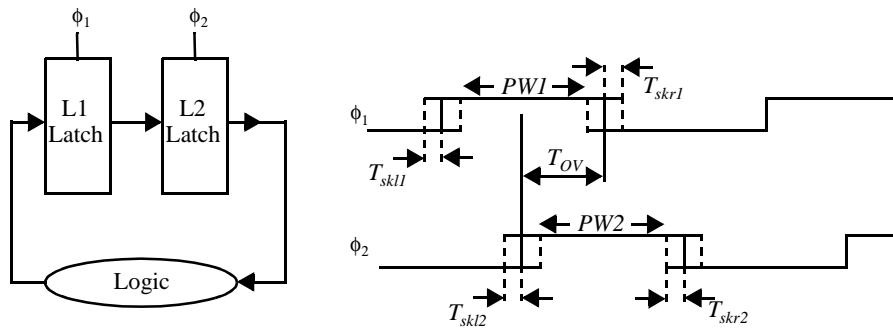

Figure 0.9 Timing constraints
6. For the L1-L2 latch based system from Figure 0.9, with two overlapping clocks derive all the necessary constraints for proper operation of the logic. The latches have setup times T_{SU1} and T_{SU2} , data-to-output delays T_{D-Q1} and T_{D-Q2} , clock-to-output delays T_{Clk-Q1} and T_{Clk-Q2} , and hold times T_{H1} and T_{H2} , respectively. Relevant clock parameters are also illustrated in Figure 0.9. The constraints should relate the logic delays, clock period, overlap time T_{OV} pulse widths $PW1$ and $PW2$ to latch parameters and skews.